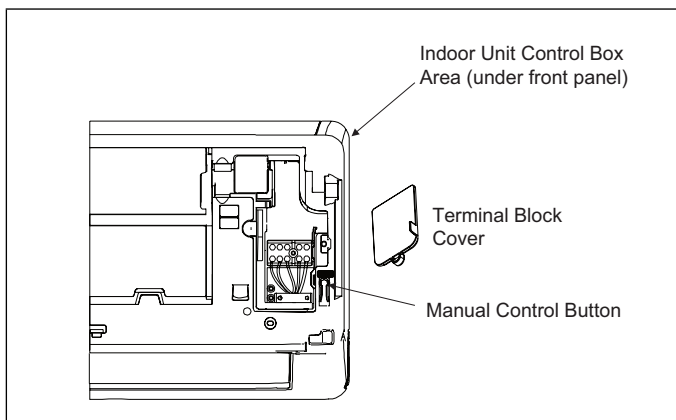

Figure 35. Manual Control Button
2. The MANUAL CONTROL button is located on the right-hand side of the unit. Press it two times to select the COOL function. See “Figure 35. Manual Control Button”.